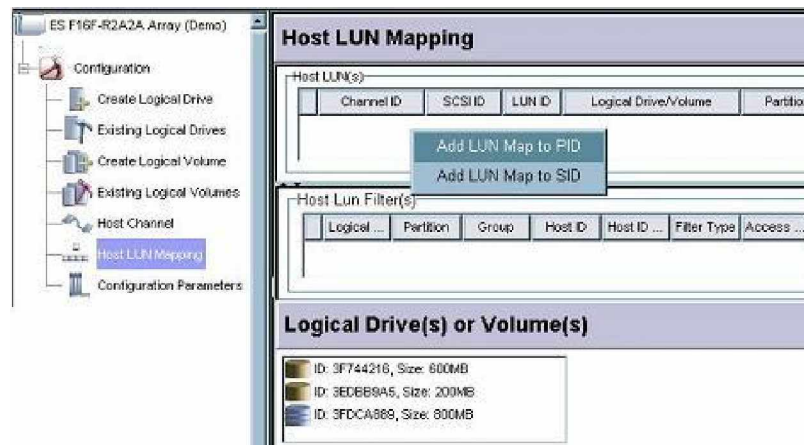

Figure 10-2: Selecting the Host Channel ID Number
Step 2. The LUN mapping window should appear on the right. Right-click on the Host LUN(s) sub-window to display **PID** (Primary controller ID)/**SID** (Secondary controller ID) command menu as shown in *Figure 10-2*. Raid Inc.s' controllers or subsystems always come with pre-configured IDs. If it is necessary to add alternative IDs, please select the **Channel** window from the navigation panel.
Step 1. Follow the steps listed in *Section 10.1* above to access the **LUN Map Setting** window shown in *Figure 10-2*.
Step 1. Follow the steps listed in *Section 10.1* above to access the **LUN Map Setting** shown in *Figure 10-2*. Repeat the process described in *LUN Mapping* to select a Logical Drive, Logical Volume, or a logical partition.